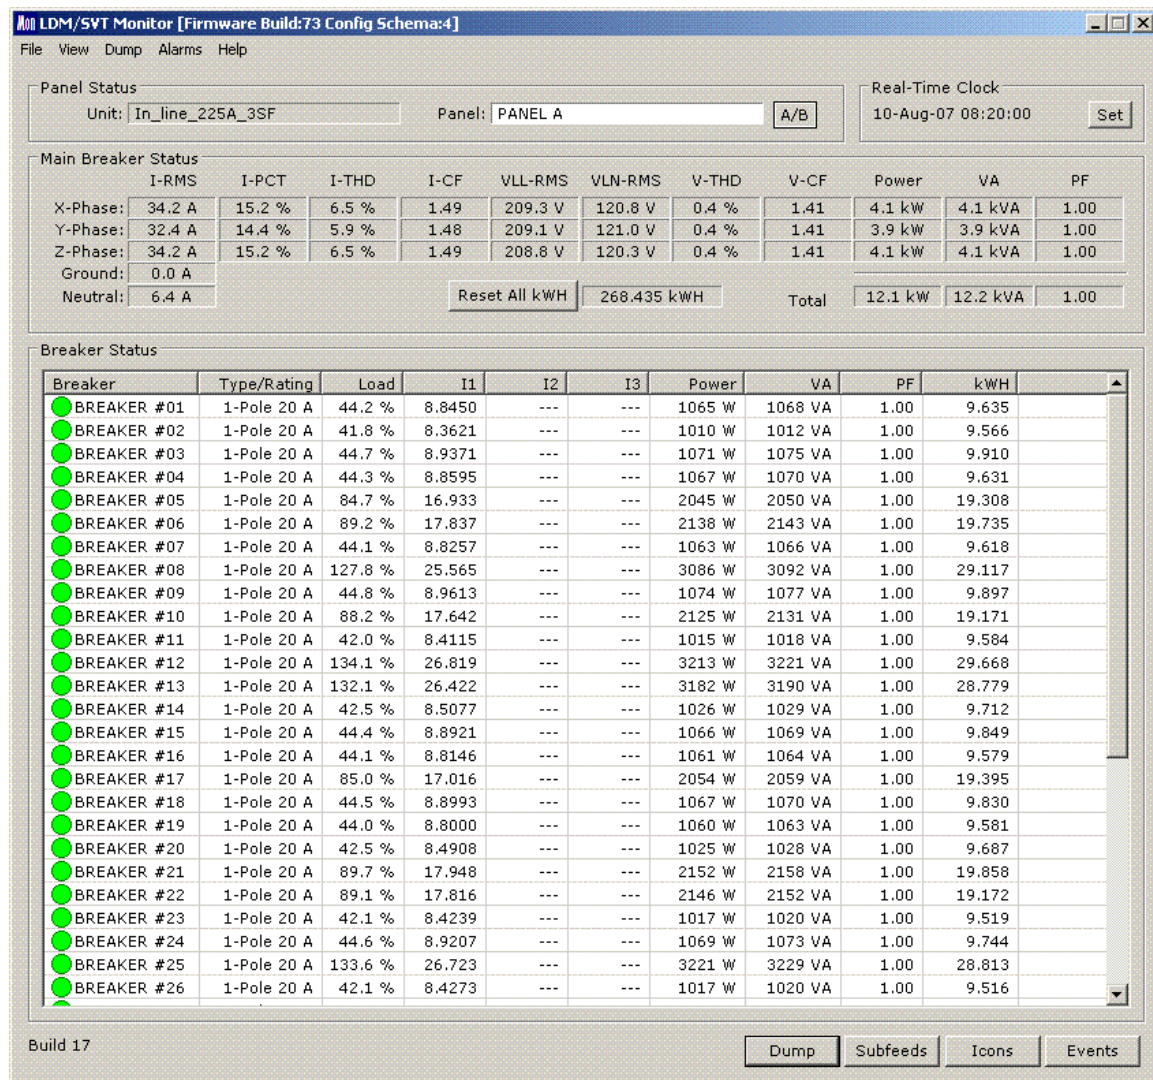
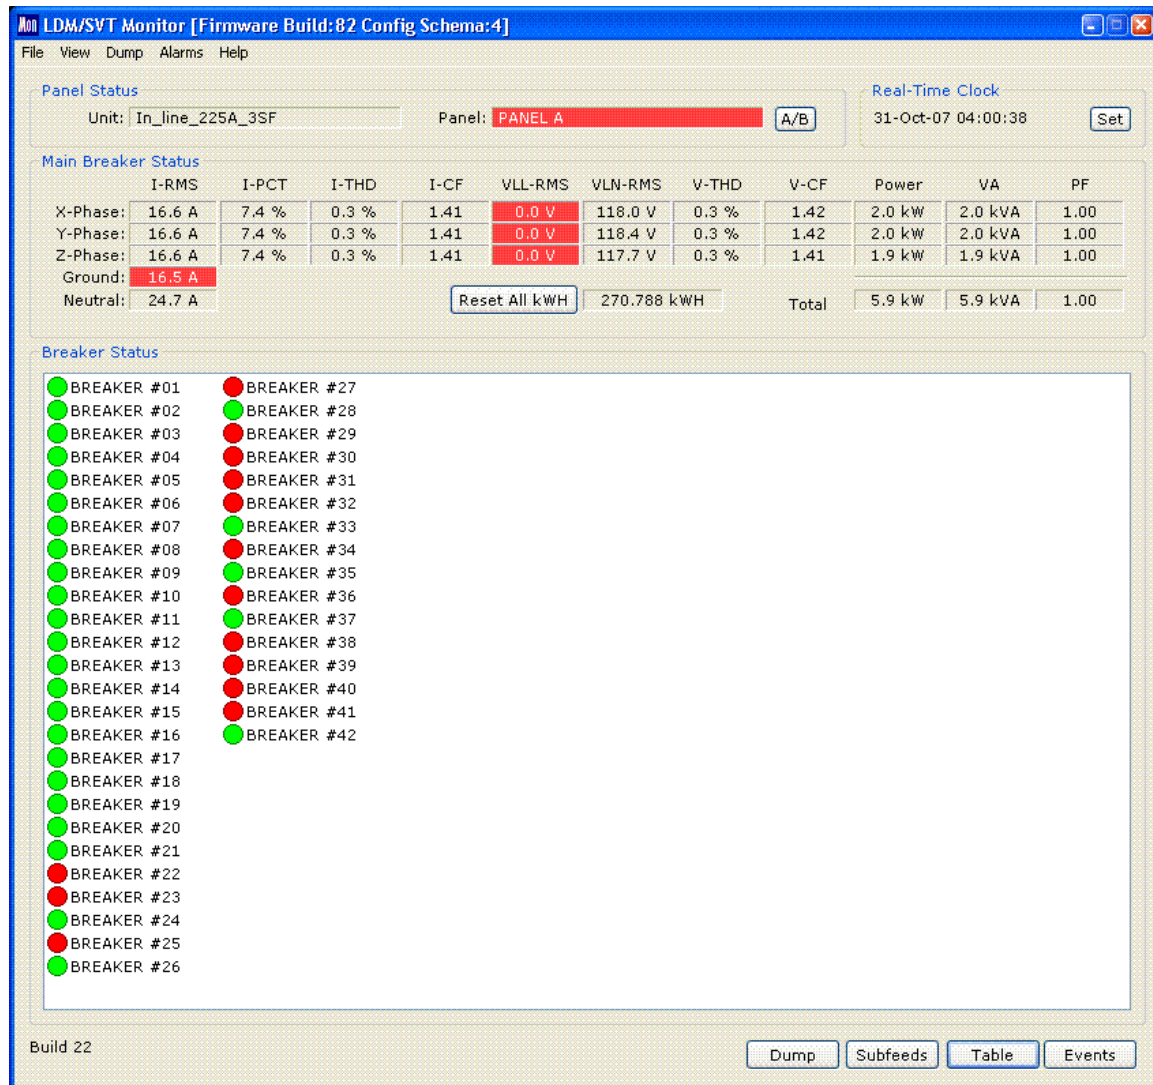

Figure 1: Table View
Figure 3: Icon View
- Main Breaker Status - See Fig. 1
- Breaker Status - See Fig. 1
- Provides date and time. “SET” button provided to update date and time/See Fig. 1
- Icons/Table - Icon or Data Table for item being monitored/See Figs. 1 (Table) and 3 (Icon)
Rev. 5 October 30, 2007 - Separated LDM Training Instructions into three separate training documents. Replaced Figure 3 to reflect view in Monitor Build 22. Relabeled Figures 1 and 3.